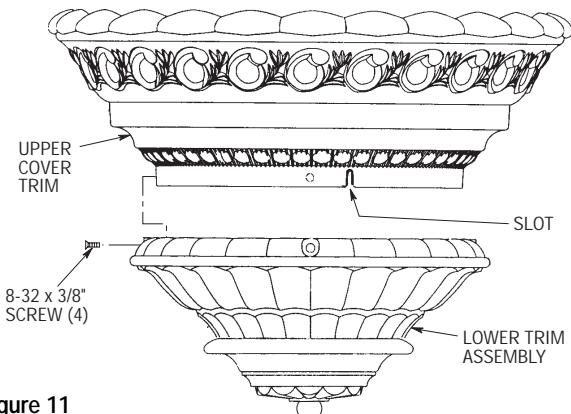

Figure 11
16. Position the lower trim assembly on the upper cover trim so that the tabs on the lower trim assembly slide into the slots in the upper cover trim (Figure 11). Then securely install four 8-32 x 1/2" screws (supplied).